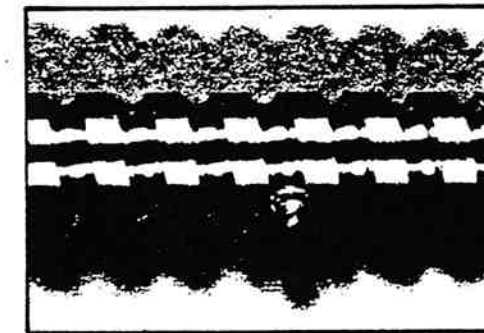

Figure 11-49. Worm Shaft with Ball in Track.
3. Inspect the worm shaft (5a) ball track grooves (helical shaped) for brinelling or spalling. See figure 11-49 for an example of how ball sits properly on the track and normal machine marks on the shaft.